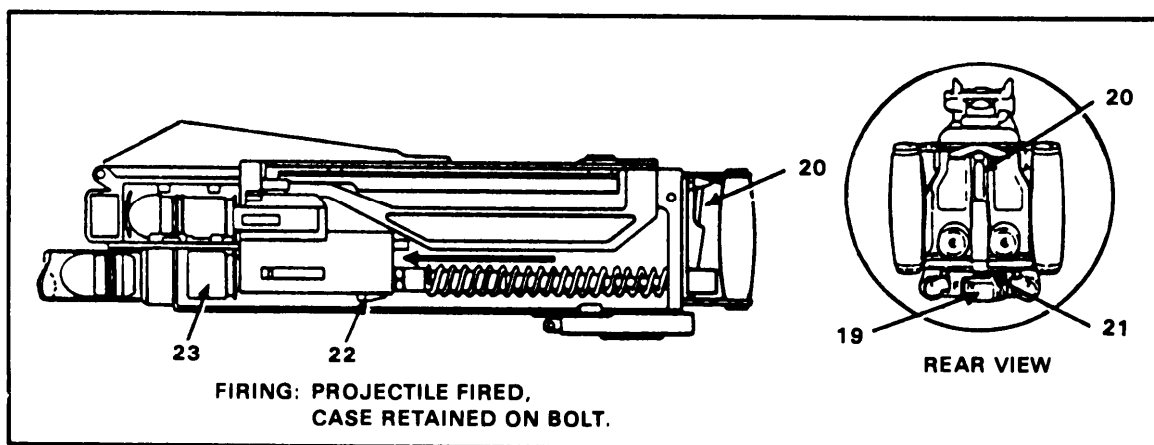

Figure 2-28. Firing cycle.
d. Firing Cycle. Pressing the trigger depresses the tip of the receiver sear (21). The receiver sear disengages the bolt sear (22), which releases the bolt forward under spring pressure with a round in the bolt fingers. The cocking lever hits the forward end of the left receiver rail slot, forcing the lever to the rear. The bolt sear hits a plate in the bottom of the receiver, which pushes the firing pin sear up to release the firing pin. A combination of the bolt's inertia and pressure from the firing pin spring drive the the firing pin forward. The tip of the firing pin detonates the primer. The round is not completely inside the chamber at the moment the weapon is fired. The cartridge case, held by the bolt fingers, protrudes from the chamber (23). The explosion forces the projectile down the bore (Figure 2-28).